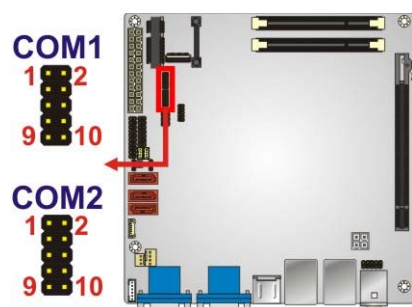

Figure 3-20: RS-232 Serial Port Connector Locations
- CN Location:** See **Figure 3-20**